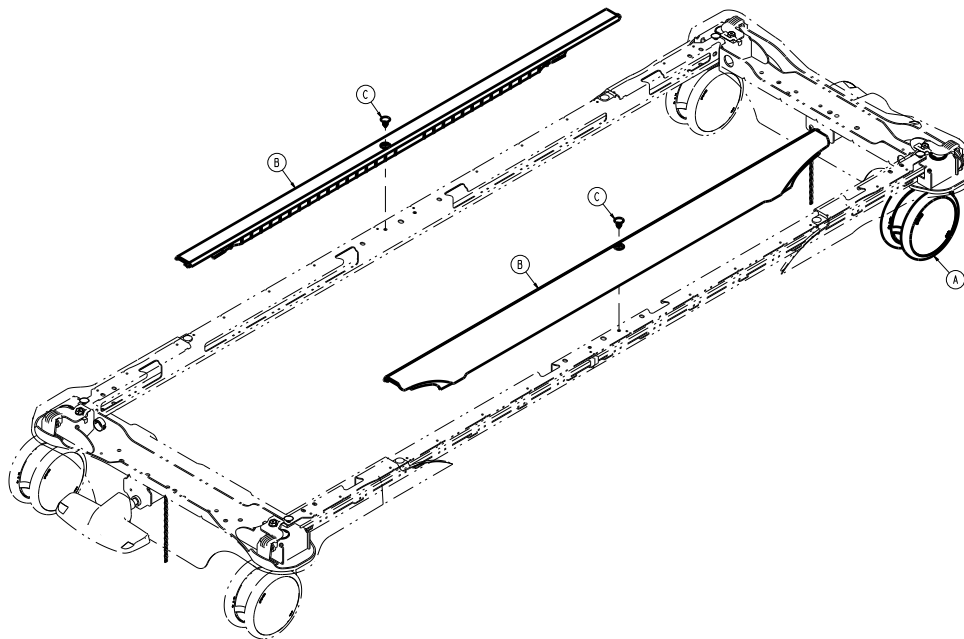

Figure 13 – Removing the covers
5. Using a slotted screwdriver and diagonal pliers, remove the retainers (C) from the left and right center base covers (B) (Figure 13). Discard the retainers. Remove the covers.